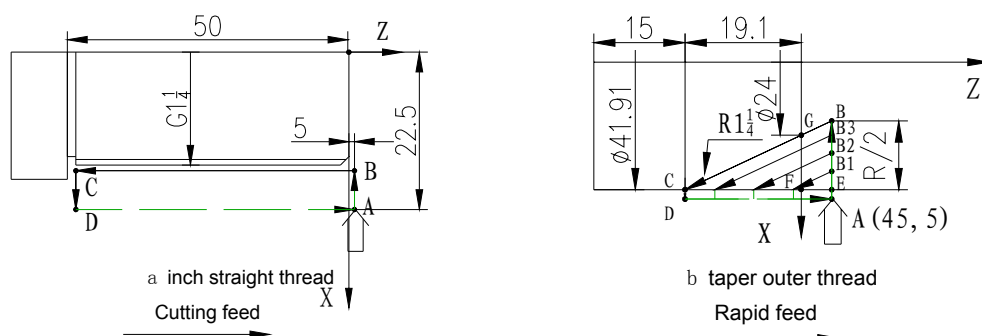

Fig. 4-28
5) Compound example: as Fig. 4-28
Example 1: Metric straight thread as Fig. 4-28 a. ($G1\frac{1}{4}$: 11 teeth, $D=41.910$, $D2=40.431$, $D1=38.952$)
Example 2: Outer taper thread as Fig. 4-28 b ($R1\frac{1}{4}$: $D=41.910$, $D2=40.431$, $D1=28.952$, $P=2.309$, the valid length of thread is 19.1)